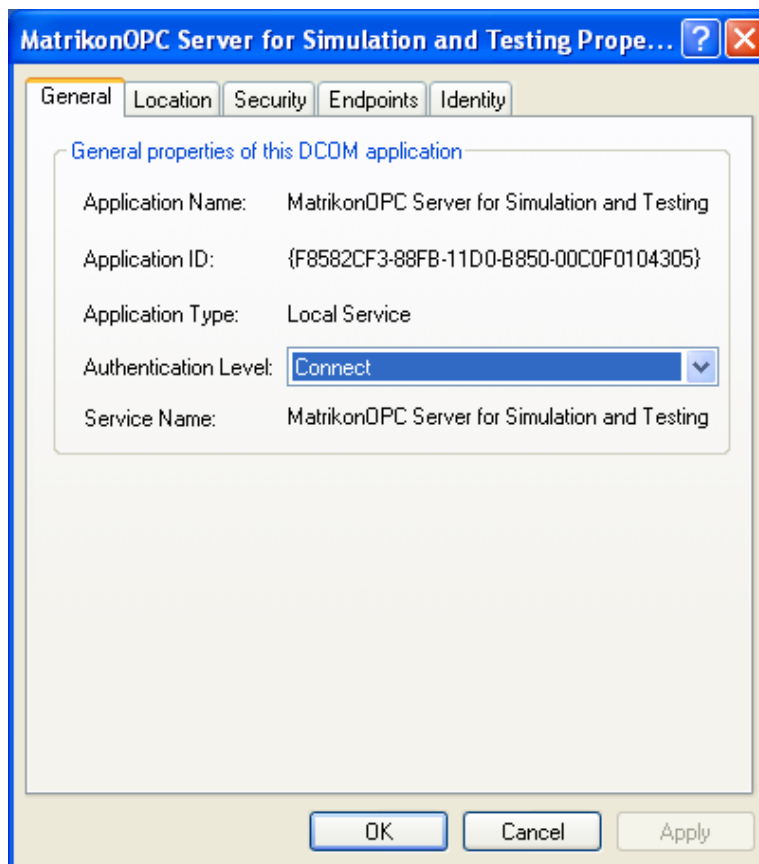

Figure 50 - Distributed COM Configuration Properties Window
3. The **Distributed COM Configuration Properties** window (Figure 50) appears.